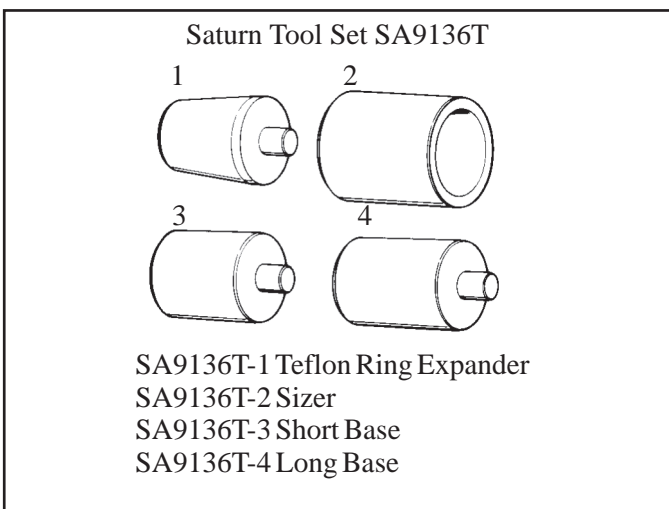
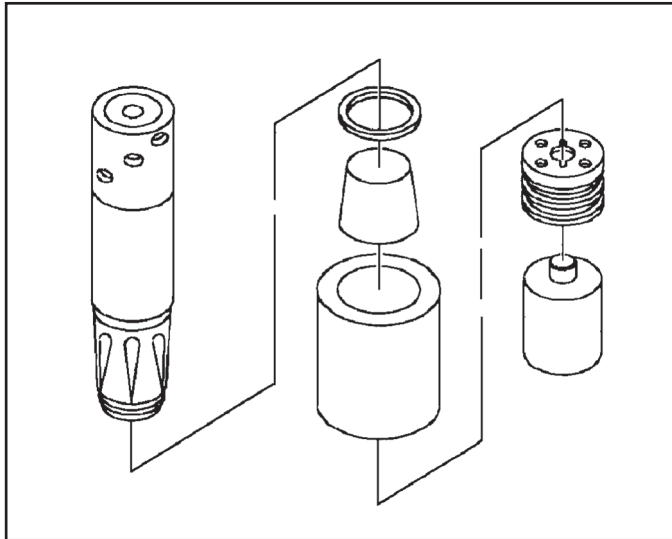

Figure 162
Figure 163
1. Using Saturn's seal installation tool or equivalent (See Figure 162), install new sealing rings onto the 1st clutch flange (See Figure 163).
2. Place the hub with retaining bolt threads facing up on the TALL support tool SA9136T-4 (See Figure 163)
3. Place Sizer SA9136T-2 over the hub, with the large internal diameter down, to act as a seal stop (See Figure 163).
4. Install the expander cone SA9136T-1 on the hub and place the sealing ring onto the cone (See Figure 163).
5. Use the pusher SA9143T to install the ring (See Figure 163).